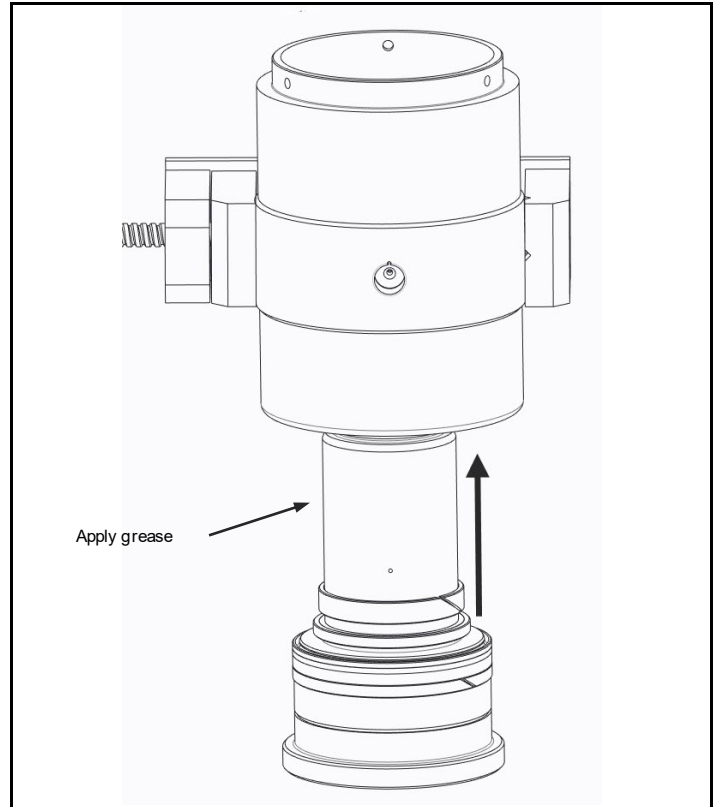

Fig. 4.7 Apply grease and install piston
- When sliding the piston assembly into the body, take care not to damage any of the internal surfaces. (Fig. 4.7)